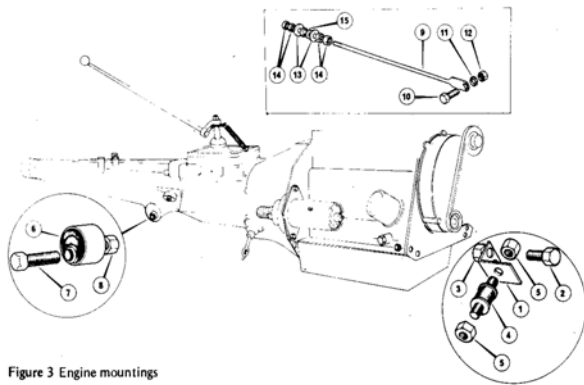

Figure 3 Engine mountings
21. Remove the front engine mounting brackets and rubbers (Figure 3).
5. Using special tool no. RT 7485 as a centraliser, or if this is not available an input shaft from a spare gearbox, replace the clutch disc and pressure plate assembly on to the flywheel, securing evenly with six set screws and lock washers to a torque of 1.66 to 2.07 kg/m (12 to 15 lb/ft) see Figure 3. The pressure plate assembly should be tapped with a hide mallet to ensure it is square on the flywheel.